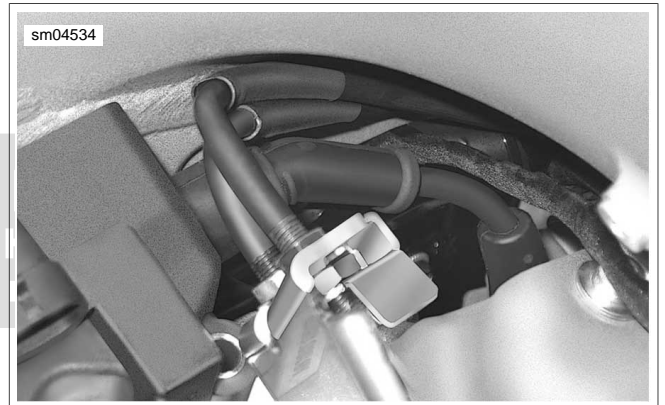

Figure 2-130. Throttle cable elbow alignment
- When installing the throttle cables at the throttle body you need to avoid allowing the elbows of the throttle cables to rotate up when tightening the throttle cable jamnuts. This can cause the cable elbows to contact the frame. See Figure 2-130 for correct routing of the cables.